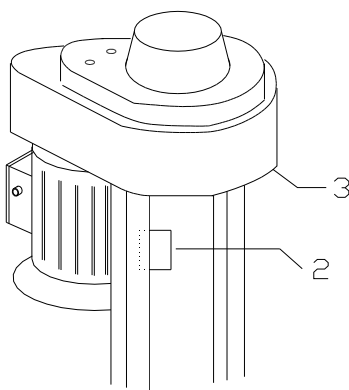

Fig.10
- to prevent overrun of the mobilepart, an electric limit switch and a steel plate stop are envisaged for the upper part of the post (Fig.10).